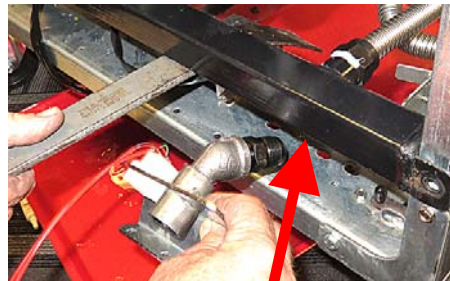

Figure 55
54. Using a prybar, lift the oil manifold up slightly to allow the oil dispose assembly 1087707 to slide in between the gas and oil manifolds (see Figure 55).